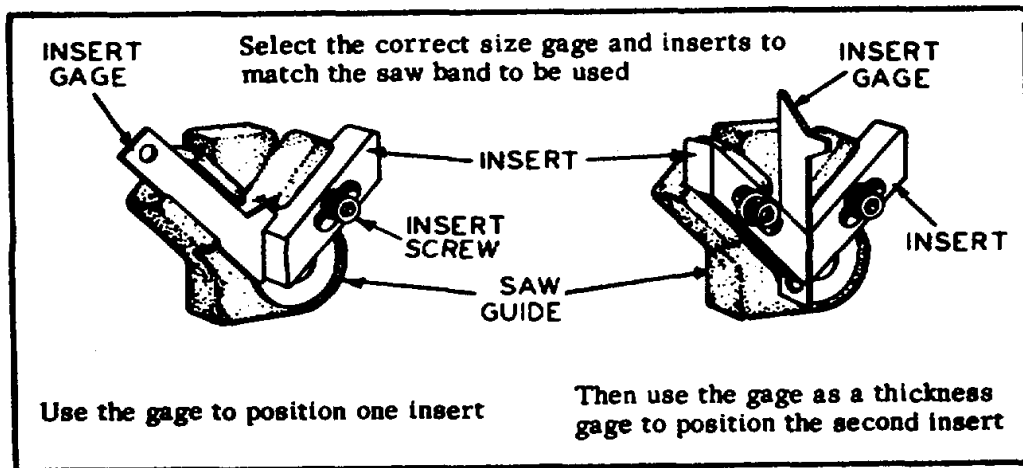

Fig. 7 - How to adjust saw guide inserts.
(1) Select the set of inserts marked for the width of saw band being used.
(2) Place the right-hand insert in the milled slot (fig. 7), and tighten the screw lightly so that while the insert will slide in the slot, it will still hold its position when released.
(3) Select the proper insert gage for the gage of saw band being used.
(4) Place the gage in the opposite slot and adjust the insert so that it meets the two gaging edges (fig. 7). Then tighten the insert securely in place.
(5) Place the left-hand insert in the slot and tighten the screw lightly.
(6) Place the gage edgewise between the two inserts (fig. 7). Then bring the left-hand insert down so that it rests against the gage. When the gage is removed, the gap left